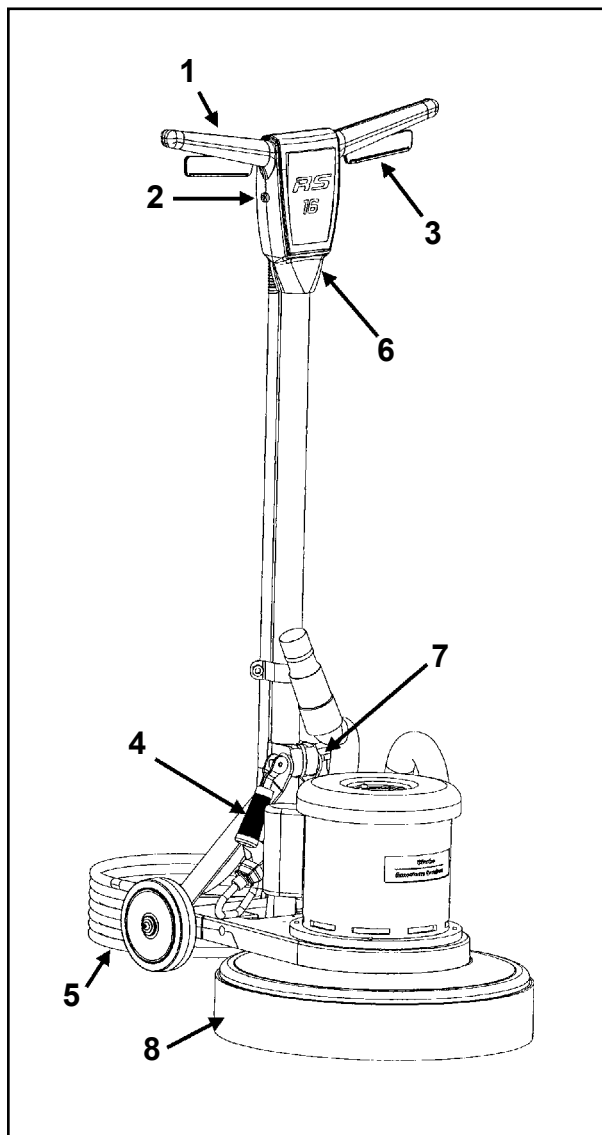

Figure 1
KNOW YOUR MACHINE (Figure 1)
2. Install skirt (RS-16 DC) as shown in figure 1, item 8; stiffening the strip down.